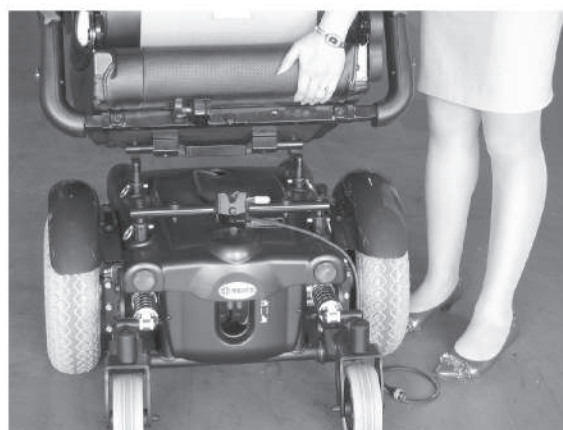

Fig C4
- (4) Lift the rear part of seat. (Fig C4)
- (2) Tilt the seat to horizontal position, then locked-shaft of seat will be inserted into lock-device of power base directly. (Fig C4→C3)